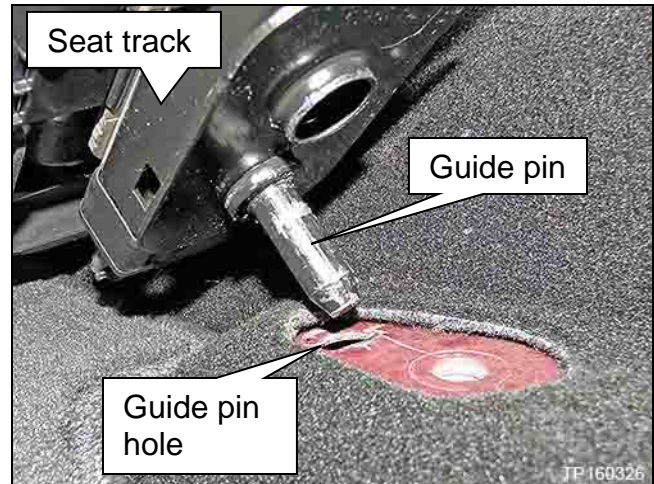

Figure 13
- Align the guide pin on the left rear corner of the seat track (Figure 13) and insert into guide pin hole.